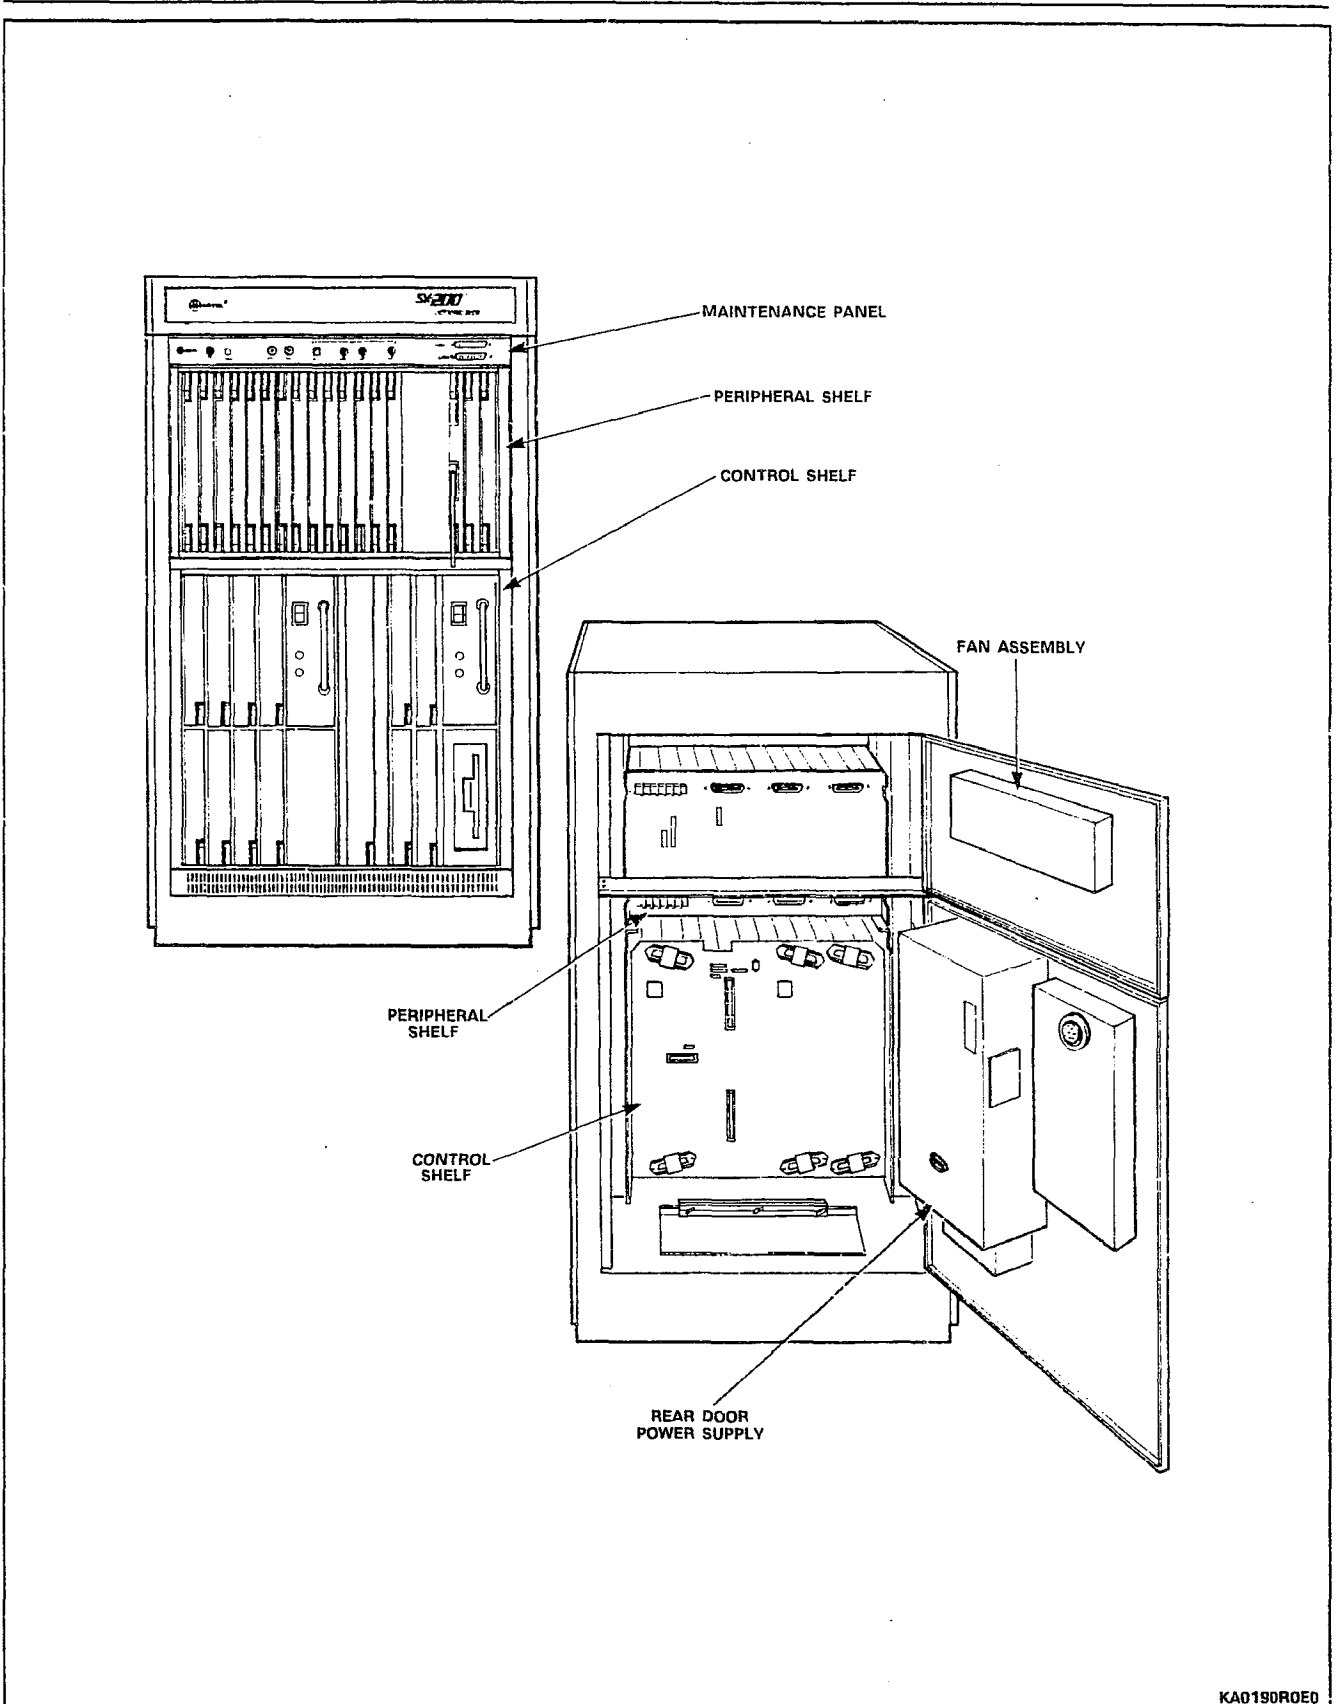

Figure 2-2 SX-200® DIGITAL PABX Control Cabinet
2.03 The SX-200® DIGITAL PABX Control cabinet (Figure 2-2) consists of a metal frame enclosed by back, top, and side panels. It contains a 144 port digital Control shelf in the lower position and a maintenance panel at the top of the cabinet. The digital Control shelf has Bay 1 on the left and Bay 2 on the right. Access to the Bays is through the front door of the cabinet. The rear door allows access to line, trunk, and PCM cable entries. The PABX can be expanded by